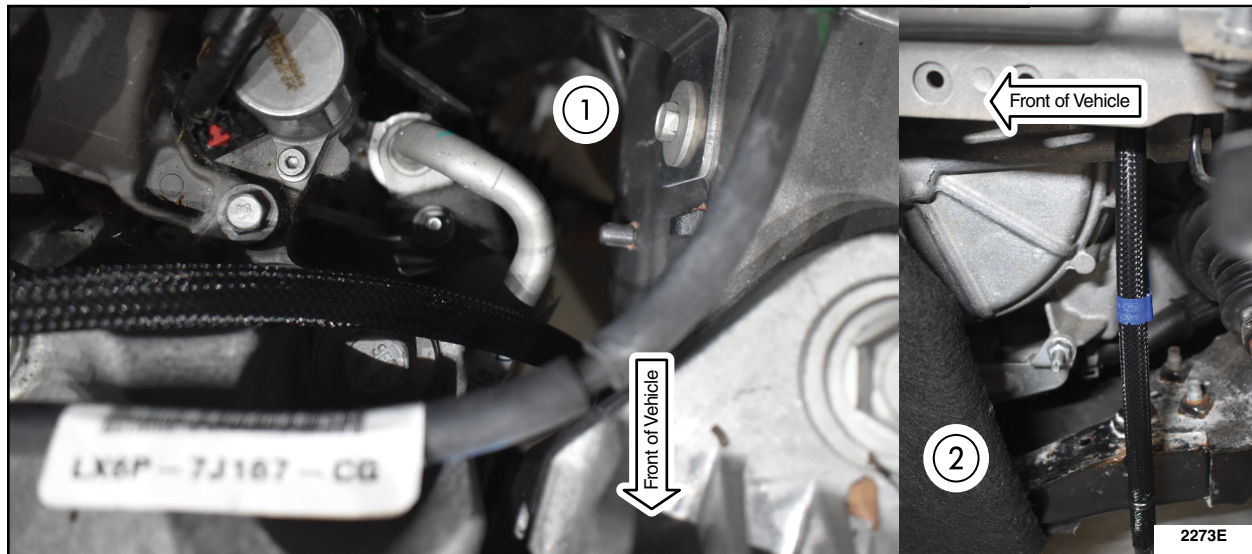

FIGURE 5
8. Feed the rubber hose end through the engine compartment and down into the wheel well. See Figure 5.